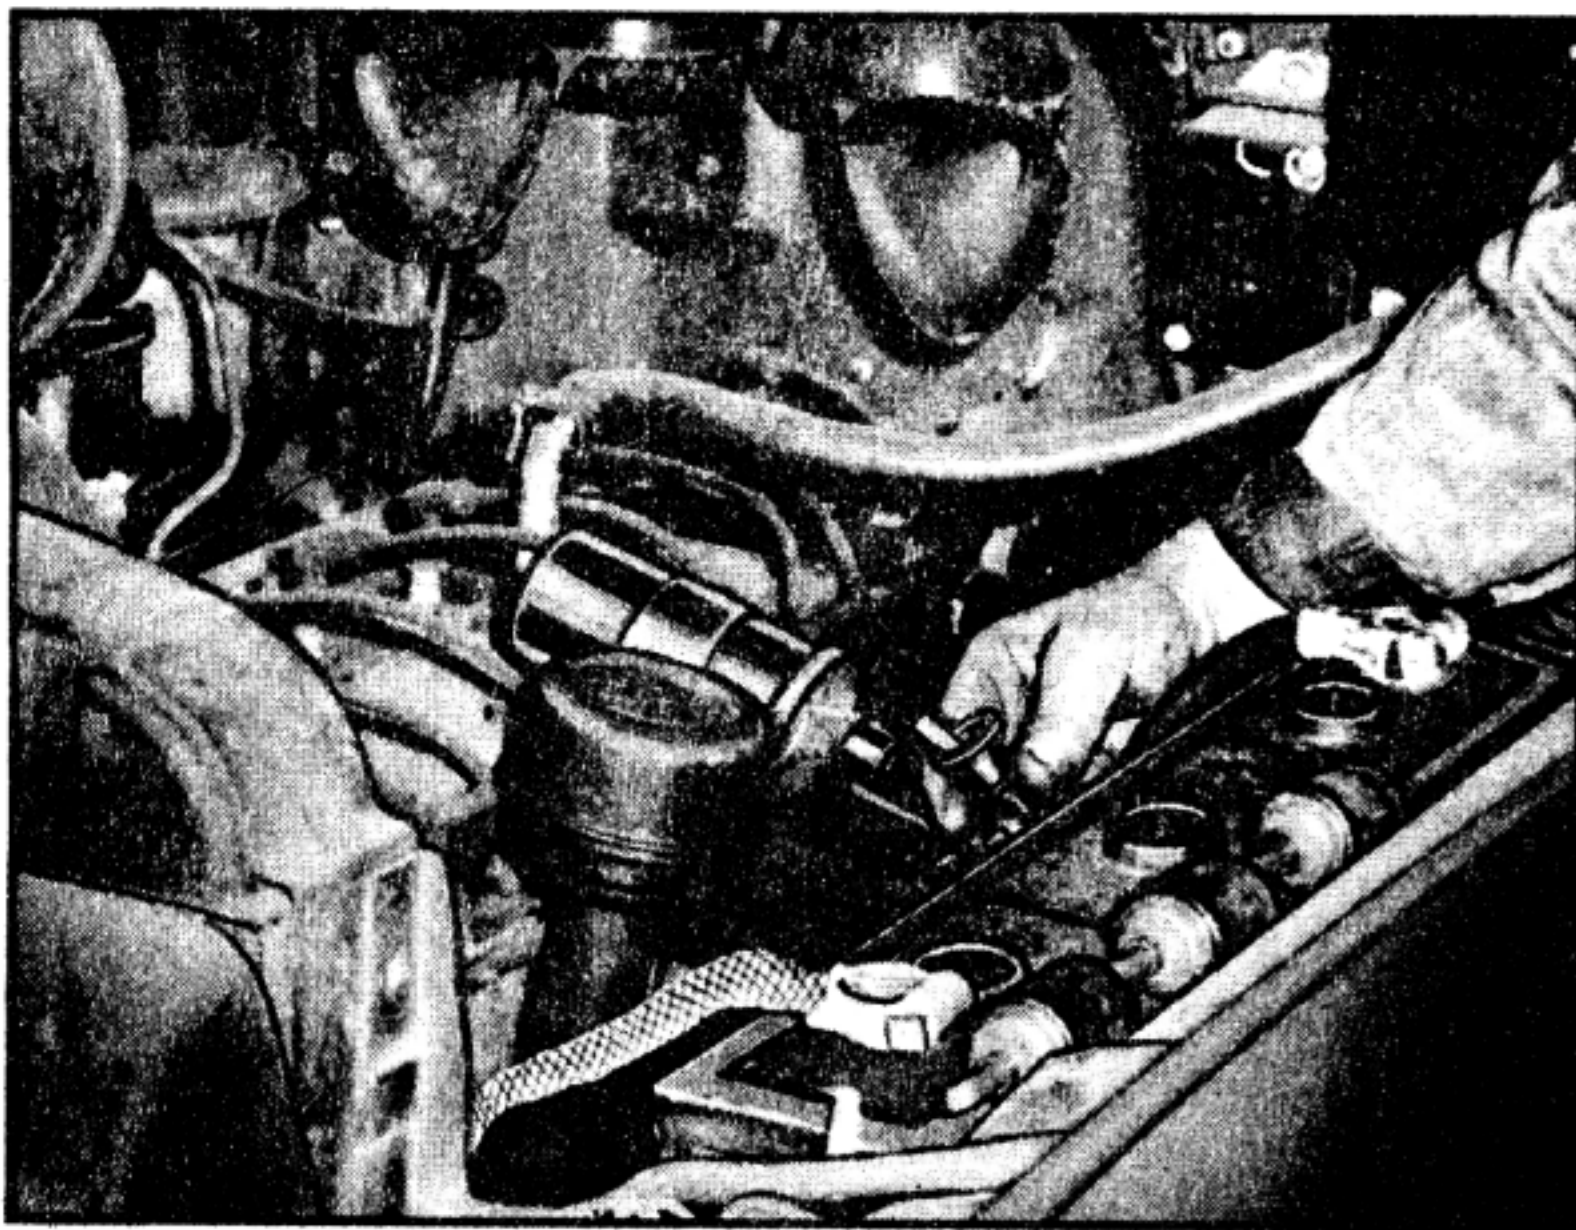

Figure 3: Disconnect distributor lead for load test.
3. On late model cars with starter-switch and ignition-lock as one unit, it is necessary to disconnect coil-to-distributor wire so as to allow starter to crank engine without starting it. (See Figure 3.)